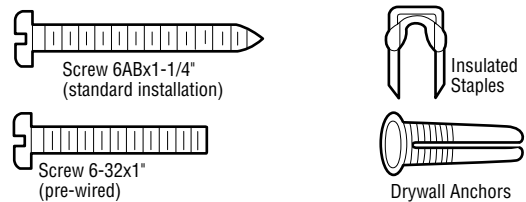

Figure 1
Locate door control within sight of door, at a minimum height of 5 feet (1.5 m) where small children cannot reach, away from moving parts of door and door hardware. If installing into drywall, drill 5/32" holes and use the anchors provided. For pre-wired installations (as in new home construction), it may be mounted to a single gang box (Figure 1).
2. Remove push bar cover by gently prying at the lower/middle portion of the cover with a small flat-head screwdriver (Figure 1). Fasten with 6AB x 1-1/4" self-tapping screws (drywall installation) or 6-32 x 1" machine screws (into gang box) as follows:
- Replace cover by inserting top tabs first and then snap cover in place (Figure 1).